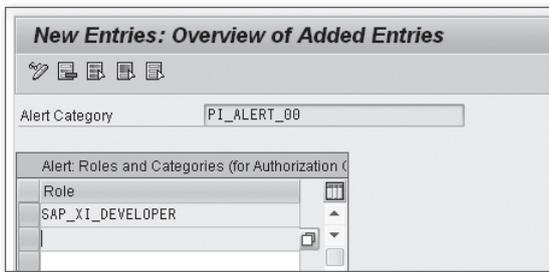

Figure 4.90 Entering a Role for the Subscription of an Alert Category
- ▶ A more flexible alternative is to let the users decide whether or not they want to receive an alert of this category. Users can subscribe to alerts in this category in the Runtime Workbench. This subscription option, however, is accessible only for users with certain technical user roles. You can specify the list of relevant roles using the SUBSCRIPTION AUTHORIZATION icon. You can offer the subscription of your own category to all participants by entering the role `SAP_XI_DEVELOPER` (see Figure 4.90). Regardless of the choice of an alternative, you must save your entries and assign a transport request if necessary.